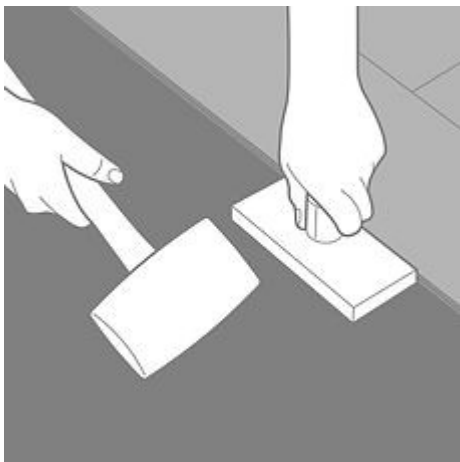

Figure 5
9. To ensure a firm Kompact Klick installation, it is recommended that the planks are tapped together along the long edge with a tapping block and a rubber mallet. This will ensure that the Kompact Klick mechanism is firmly locked during installation, providing a secure joint and avoiding any movement after the installation has been completed (**Fig 5**).